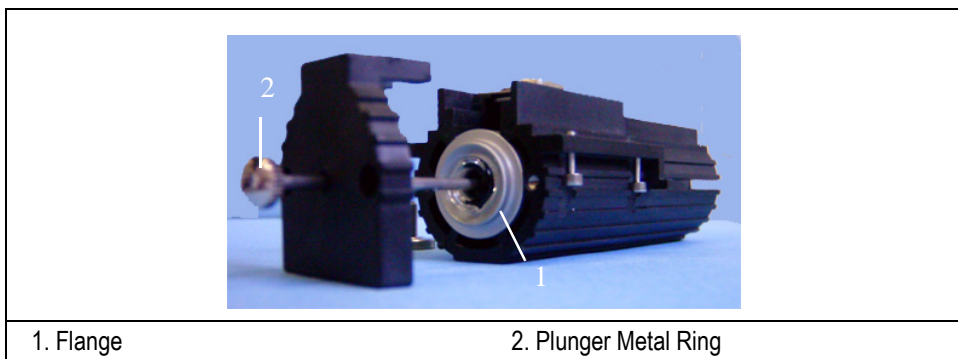

Figure 7-9. TriPlus HS Syringe Installation (2)
As shown in Figure 7-9, the syringe top is surrounded by a plunger button that ensures the correct positioning of the syringe inside the heating block. This metal ring has appropriate dimensions for the 1 or 2.5 mL syringe (for 5 mL syringe, it is not necessary).
1. By using a suitable tool (for example, a small screwdriver) gently pull out the flange **1** of Figure 7-9, until the syringe is completely out of its holder. Inside the syringe holder there are two semi-cylindrical sleeves that can be removed by upturning the heating block; the sleeves are used when 1 or 2.5 mL syringes are chosen.